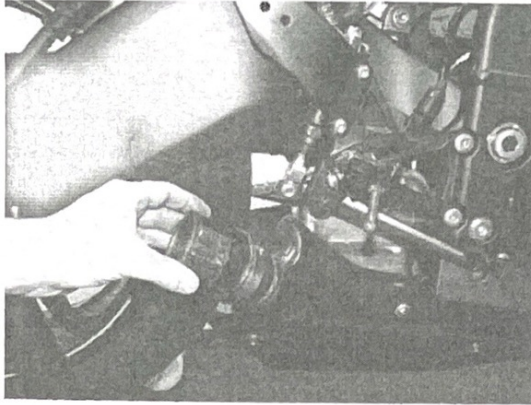

Figure 28
4. **For SLIP-ON (without optional link-pipe!) only:** remove stock graphite sleeve gasket and replace it with Akrapovic graphite sleeve gasket (Figure 28, 29).